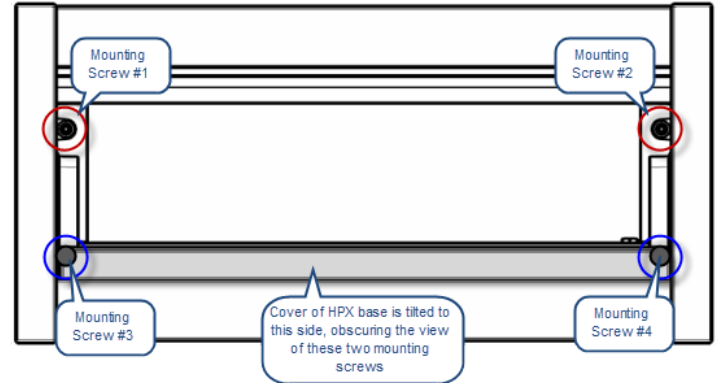
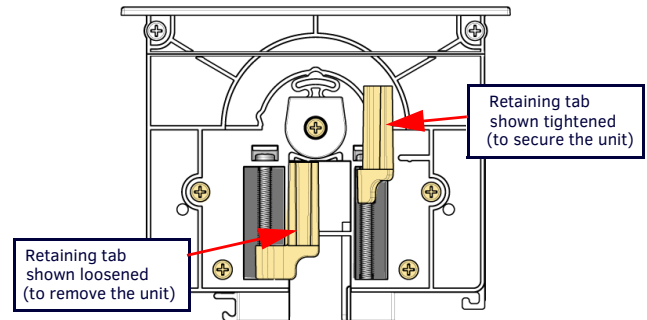

FIG. 8 HPX BASE ASSEMBLY (SHOWN MOUNTED) - MOUNTING SCREWS LOCATIONS
FIG. 9 HPX BASE ASSEMBLY (SHOWN MOUNTED) - MOUNTING SCREWS LOCATIONS
- Tighten the four mounting screws (FIG. 8) located inside and at each end of the HPX base assembly, to rotate the retaining tabs (FIG. 9) into locking position under the mounting surface.
- Loosen four screws located inside and at each end of the HPX base assembly (FIG. 8), in order to rotate the retaining tabs from under the mounting surface.
FIG. 9 provides a cutaway view of the End Cap, showing the retaining tabs highlighted in both the loose position and the tightened (secure) position.